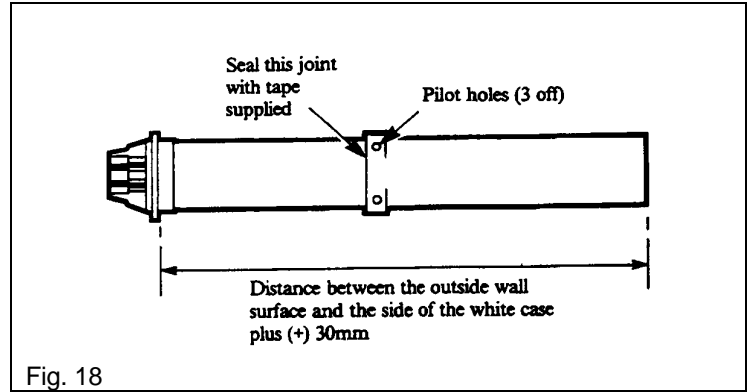

Fig. 18
Refer to Fig. 18.
2. Locate the flared end of the extension over the open end of the flue/terminal assembly as shown in Fig. 18. Ensure that the inner flue tubes are engaged.